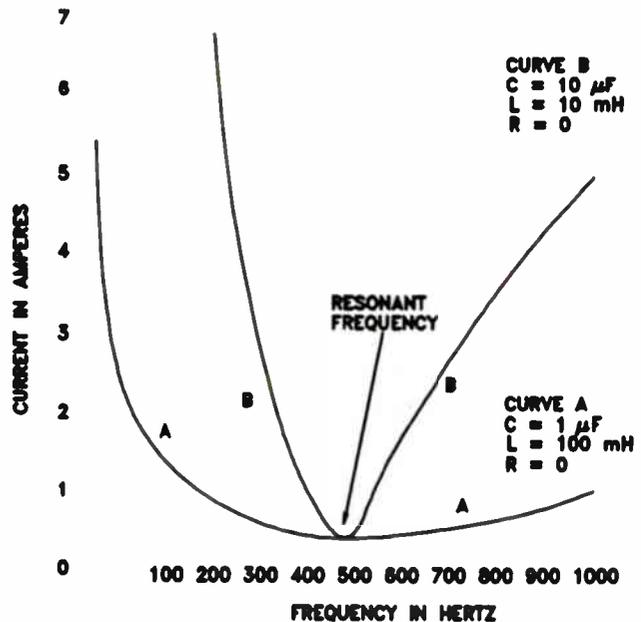

Figure 14. How the line current varies when the frequency is varied in a parallel resonant circuit.
**Varying f and R.** What if the resistance R in Fig.11 were zero? Curve A in Fig.14 shows how the current will vary as the frequency applied to the resonant circuit is changed. When the frequency is zero, we have dc. No current will flow through the capacitor. At the same time, the inductive reactance of the coil is zero, so the only limit to current flow will be the resistance of the coil. As the frequency is increased beyond the resonant frequency, the current rises slowly. The increased line current is due to the drop-off in the capacitive reactance of the capacitor. Current flow through the coil will continue to decrease as the frequency is increased because the inductive reactance of the coil will increase with the frequency.
Curve A in Fig.14 is for a circuit composed of a 100 mH coil and a 1  $\mu$ F capacitor. This circuit resonates at 500 hertz. If we reduce the inductance to 10 mH and increase the capacitance to 10  $\mu$ F, the resonant frequency remains 500 Hz, because the product of the inductance and capacitance is the same. A 20 mH coil and a 5  $\mu$ F capacitor also resonate at a frequency of 500 Hz, for the same reason, as are a 10 mH coil and a 10  $\mu$ F capacitor.
Curve B of Fig.14 shows the line-current curve for a parallel resonant circuit made up of a 10 mH coil and a 10  $\mu$ F capacitor. Notice that the current rises much faster on both sides of resonance and drops to zero much more sharply than the curve for the 100 mH coil and the 1  $\mu$ F capacitor. Curve B is sharper than curve A because the circuit of curve B has a lower ratio of inductance to capacitance. The L/C ratio for curve A is 10 times higher than the L/C ratio for curve B. A low L/C ratio gives a sharp curve.
Parallel resonant circuits with a low L/C ratio are used to separate signals on frequencies that are close together. Parallel resonant circuits with a high L/C ratio are used to pass a band of frequencies. As you can see from Fig.14, if we want to pass a band of signals from 300 Hz to 800 Hz, the higher L/C-ratio resonant circuit is more suitable. On the other hand, if we want to separate a 500 Hz signal from a 300 Hz signal, the low L/C-ratio circuit would be better.
In Fig.14, we used a small coil and a large capacitor to obtain a sharp resonance curve with a parallel resonant circuit. This gave us a low L/C ratio. For a sharp resonant curve in a series resonant circuit, you use the opposite: a large inductance and a small capacitance. This is simply another example of the difference between series resonant and parallel resonant circuits. As a technician, you will not be called upon